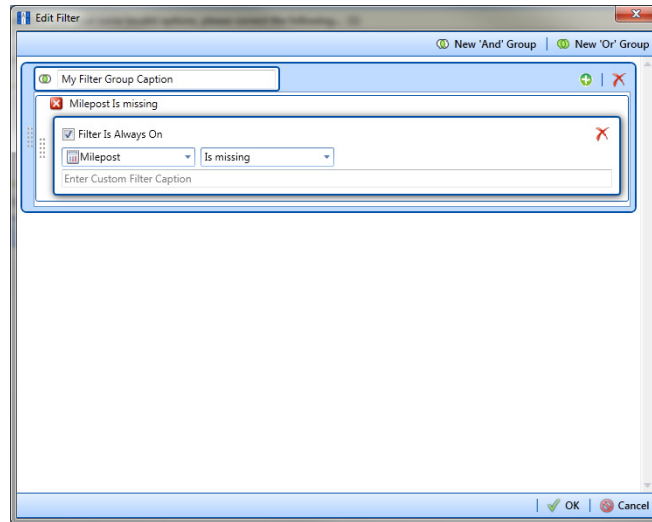

Figure 10-35. New 'And' Filter Group
- a Click  **New 'And' Group** to open the filter properties group box (Figure 10-35, page 522).